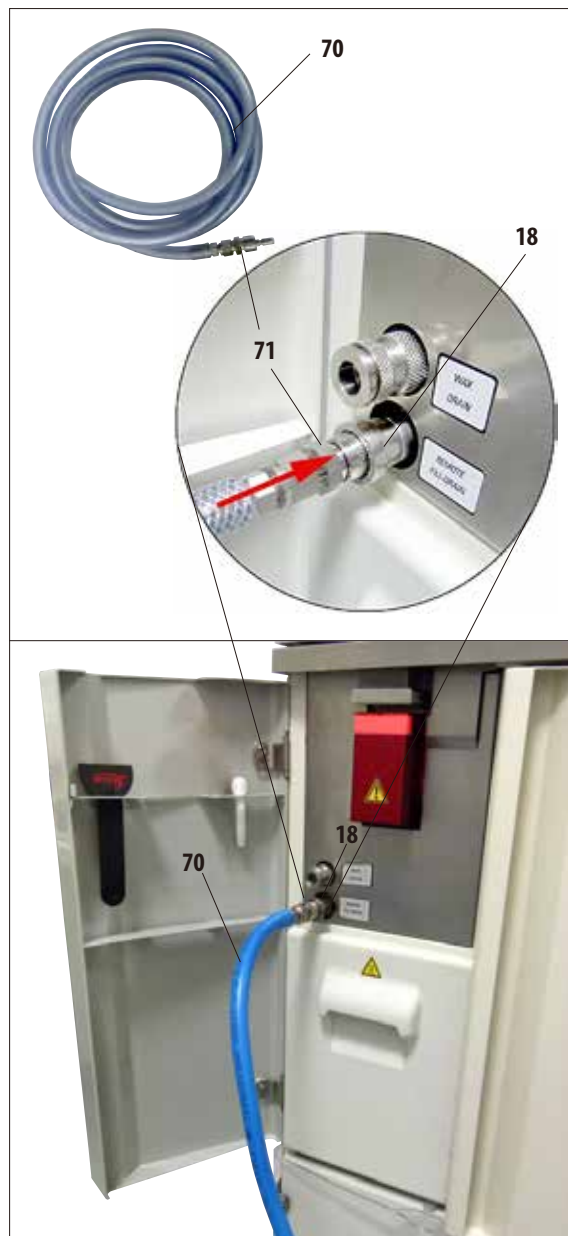

Fig. 161
- Connect the hose for remote filling/draining (70) as shown in Fig. 161.
- When connecting the hose to the connection spout (item 18 in Fig. 161) for reagents, the connection piece (71) must engage with the spout with a clearly audible click.